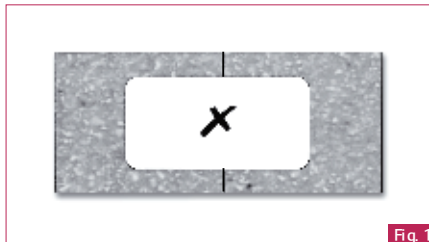

Fig. 1
- 8.2 Never position joints near cut-outs. (Fig. 1).
- 9.2 Circular sawblades with triple chip teeth will provide the best possible result (Fig. 1). A standard \varnothing 300 mm saw blade should have 96 teeth and is best with a negative hook angle. (Fig. 2).
- 10.2** The most reliable method is the “mirror cut” technique with a hand-held router, which works by cutting both adjoining edges in one cut. Place the two pieces onto a seaming table (Fig. 1), leaving a gap of 9 mm between them and secure with either G clamps or screw clamps. Clamp a metal or compact straight edge to one of the pieces and to a strong and stable table. With a 12 mm double flute tungsten router bit fixed into your hand router, move the machine steadily in one direction away from your body and cut both sections at once. Maintain a slow steady pace without stopping. After cutting check that the joint matches perfectly and mark the mating position with a pencil line.
- 10.8** The sheets are to be clamped together using for example screw clamps. It will be necessary to fix small blocks to the sheet using hot melt adhesive. (Fig. 1). Additional working steps are needed till the work piece is finished.